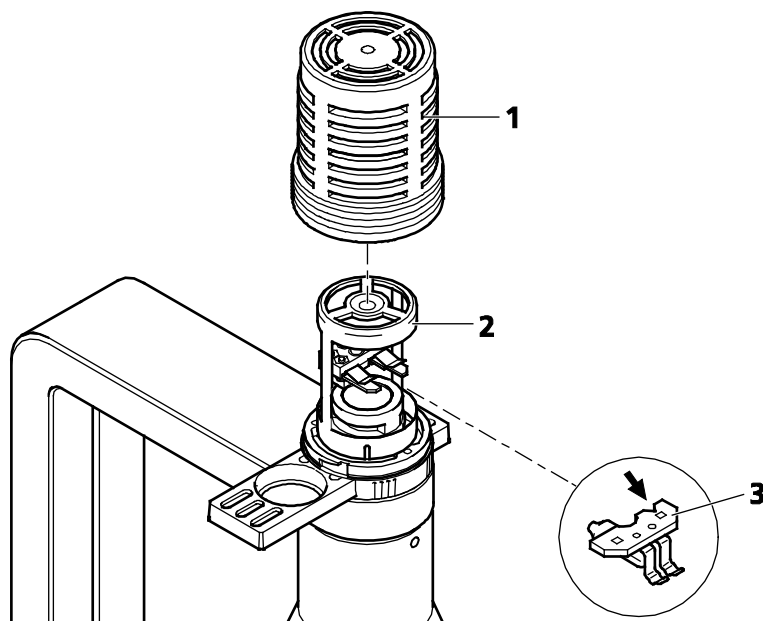

Fig. 16 Replacing the halogen lamp
Hot surfaces on lamp housing (Fig. 16/1), heat sink (Fig. 16/2) and halogen lamp:
- Unlock the lamp housing (Fig. 16/1) by slightly turning it anticlockwise.
- Remove the halogen lamp with alignment base (Fig. 16/3).